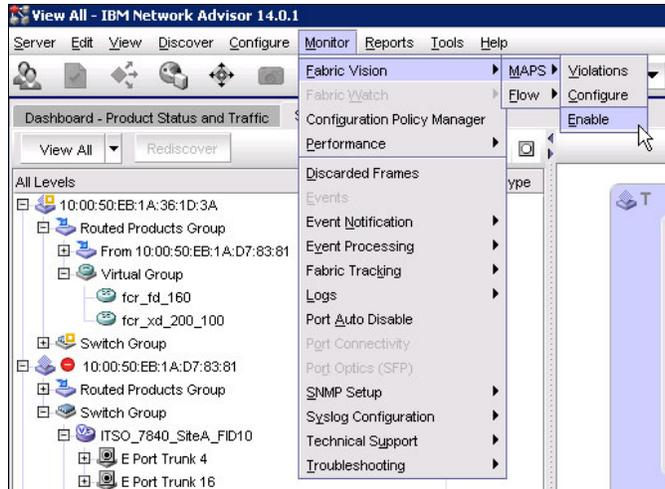

Figure 7-2 Menu of enabling MAPS
1. Click **Monitor** → **Fabric Vision** → **MAPS** → **Enable**. The Enable MAPS window is displayed (Figure 7-2).